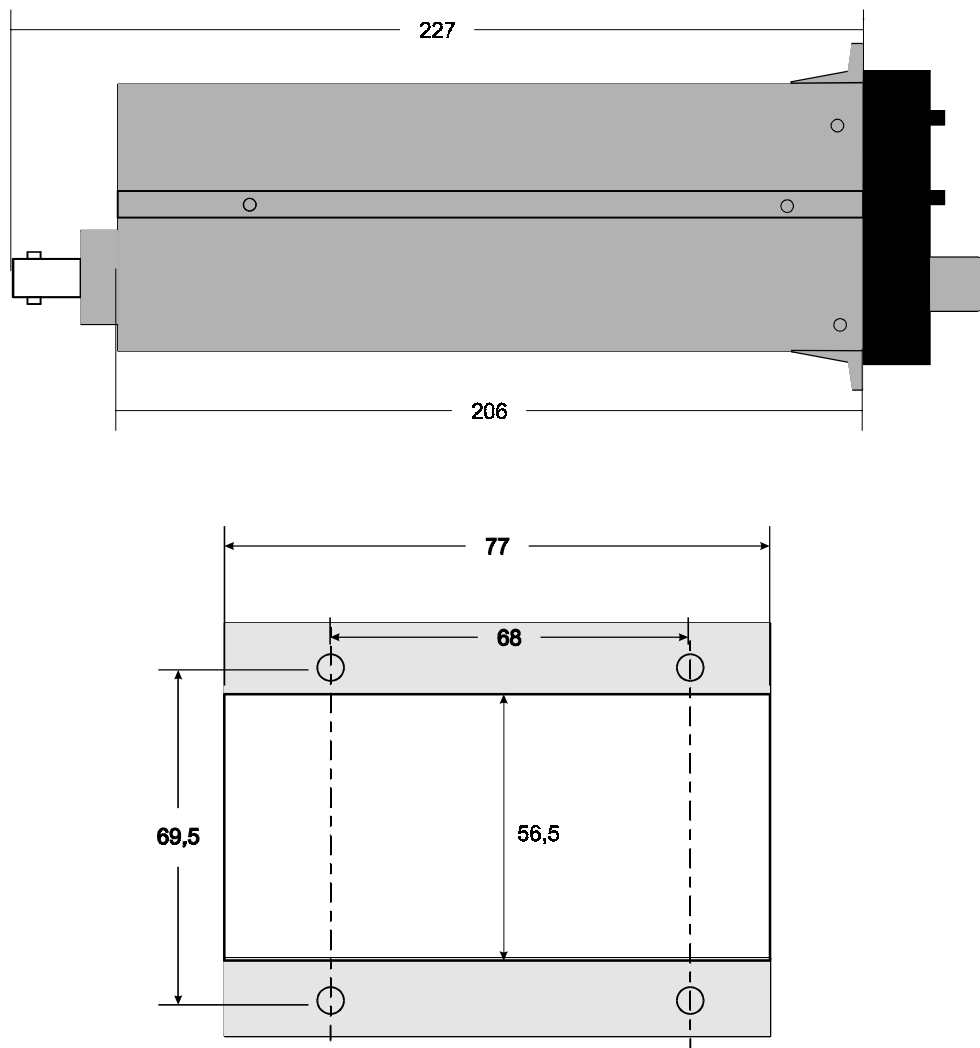

Figure 2.3 Outline and mounting Drawing
1. The ATR 720 C is mounted rigid in the aircraft panel. Determine that the location and installation of radio equipment provides sufficient visibility and handling of the controls for the pilot in his normal position. Mark and cut the mounting holes as shown in Figure 2-3. The purpose of the behind aircraft mount cutout is to allow a margin of error in cutout size and prevent the mounting tray front edge from being visible. The mounting tray lip should extend through the mounting hole flush with the instrument panel to insure proper plug in engagement.
4. Secure the mounting rack to instrument panel per Figure 2-3. The rearward mounting holes must be attached to a structural member of the panel by means of support brackets, in order to avoid vibration.